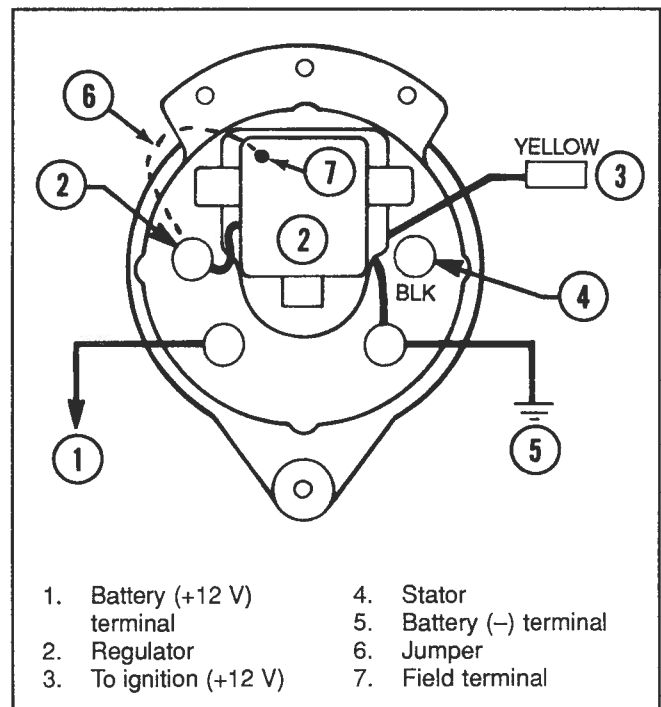

Figure 6-96. Open Regulator-Battery Voltage Check
1. Turn the ignition switch to ON. Connect a voltmeter to the output (+) terminal and the ground (–) terminal (Figure 6-96). This will check battery voltage.
3. Remove the regulator-mounting screws to gain access to the field terminal. Connect a jumper wire between the regulator terminal and field terminal (Figure 6-96).